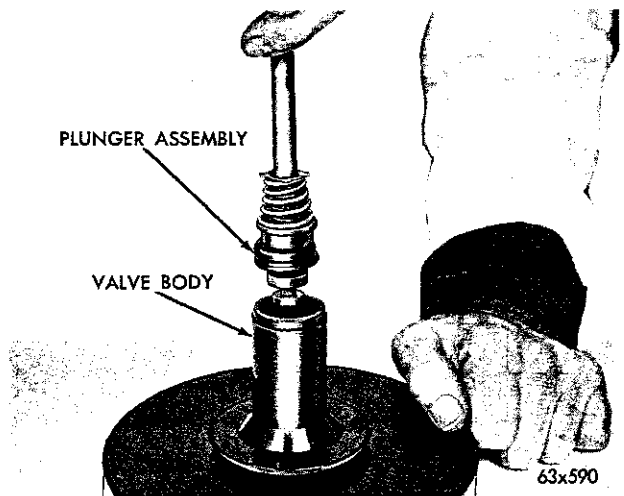

Fig. 20—Removing or Installing Rod and Valve
(11) Holding the diaphragm housing, remove the rod and valve assembly (Fig. 20). Remove the rubber valve poppet from the rod.
(6) Dip the diaphragm in mineral spirits and install it on the plate and valve body.
(7) Install the diaphragm and valve body into the rear housing (Fig. 20).
(8) Install the master cylinder push rod and retainer.
(9) Supporting the rear housing on blocks or a vise, install the return spring with the small end toward the front of the booster assembly.
(10) Place the front housing on the return spring and compress the spring (guiding the master cylinder push rod through the front seal).
(11) Align the scribe marks and install the housing attaching screws finger tight and then progressively tighten.
(12) Install the air filter, silencer and retaining ring.
(13) Install the master cylinder on the brake booster assembly and tighten the attaching nuts.